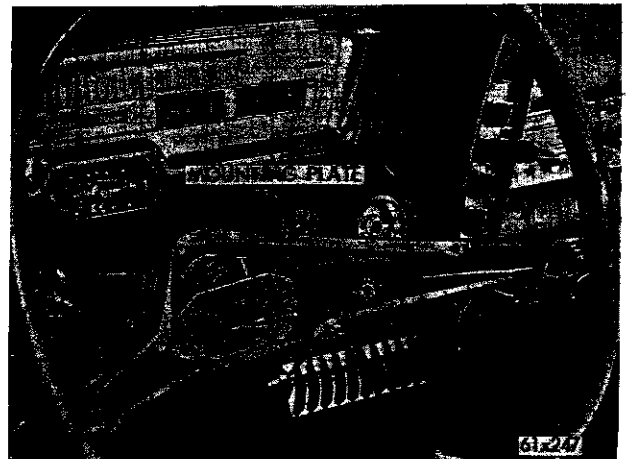

Fig. 112—Horn Blowing Ring Mounting Plate (Typical)
- (5) Remove the four screws and remove the horn blowing switch mounting plate. (Fig. 112).